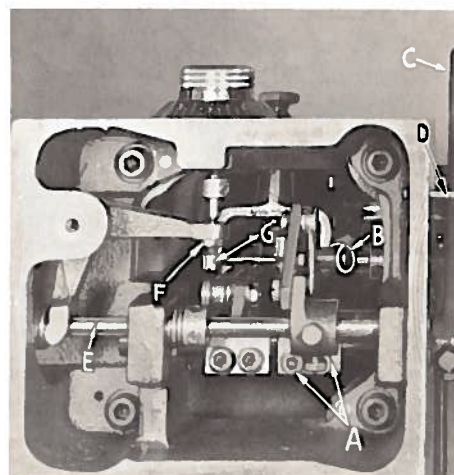
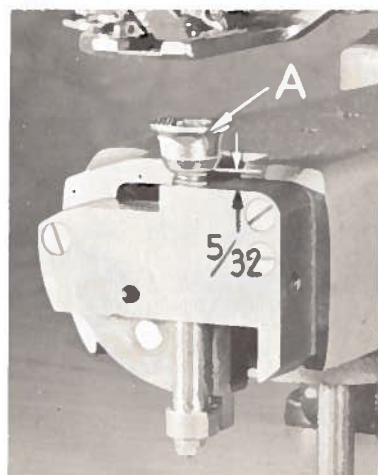
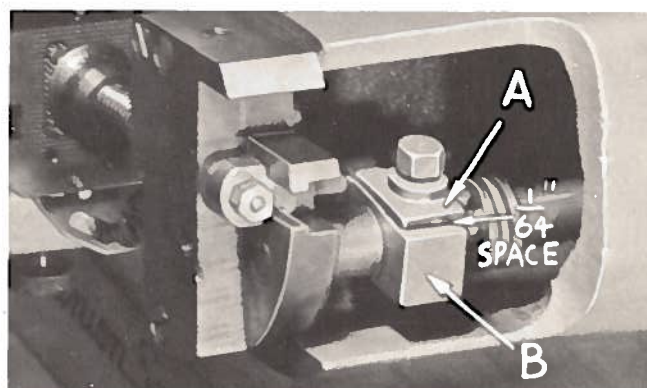
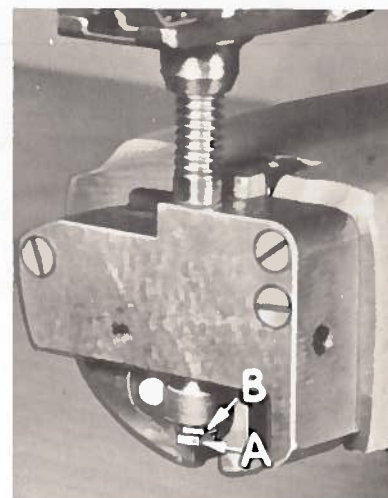

Fig. 8
Fig. 9
Fig. 10
Fig. 11
The distance the work clamp opens for insertion of work is set at the factory and usually does not have to be adjusted. Should it become necessary to do so, the proper setting may be obtained as follows: Tip machine on its side and loosen clamp screws (A, Fig. 8). Disengage spring (B) from crank roll. Depress lever (C) until it rests against its stop pin (D). Turn plunger
shaft (E) clockwise until bottom of work clamp (A, Fig. 9) is $\frac{5}{32}$ inch above plunger bearing block. Tighten clamp screws (A, Fig. 8) and re-engage spring (B).
With machine in stop position, tilt machine on side, pull penetration dial out, and turn clockwise as far as it will go. Loosen locknut (F, Fig. 8), and adjust screw (G) until space between plunger block (A, Fig. 10) and crank (B) is $\frac{1}{64}$ inch. Lock nut (F, Fig. 8) securely. Tip machine back, engage clutch, and turn pulley in operating direction until point of looper is over center of needle. Loosen locknut (A, Fig. 11) and adjust plunger up or down by means of nut (B) until point of looper just contacts needle. Lock nut (A) securely.